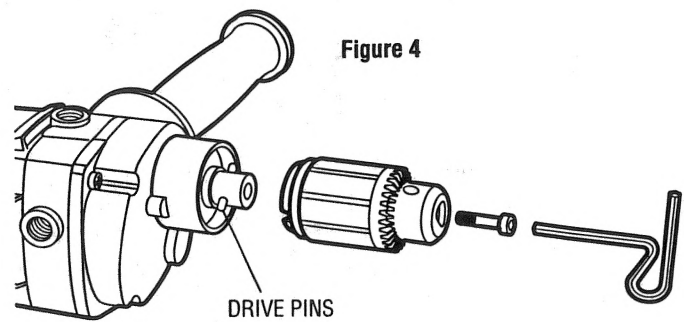

Figure 5
1. Push double-hole end of holder through the slot in other end of holder (Figure 5.)